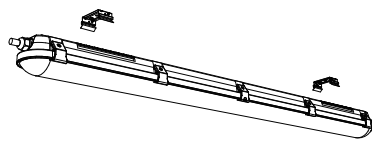

Figure 3
- Step3. Snap the product into the mounting bracket (Figure 3);